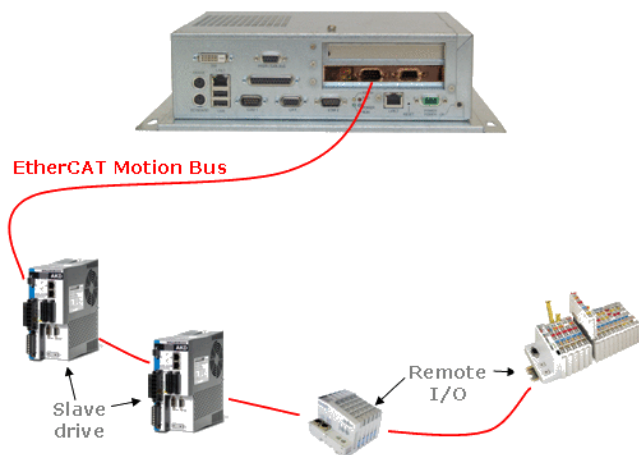

Figure 4-10: EtherCAT Network - Physical View
- Discover the devices and modules physically present in the fieldbus network (see "Figure 4-10: EtherCAT Network - Physical View " on page 198)